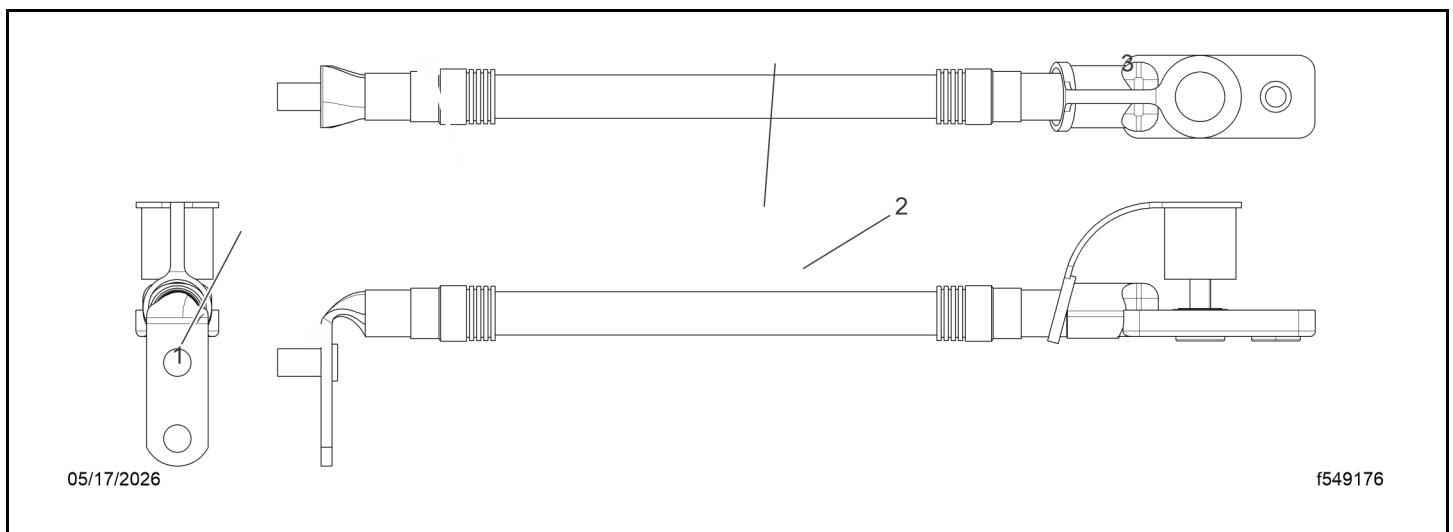

Fig 27, Jump-Start Cable Orientation
- g. Position the new terminal according to the orientation drawing. See Fig. Fig. 27.